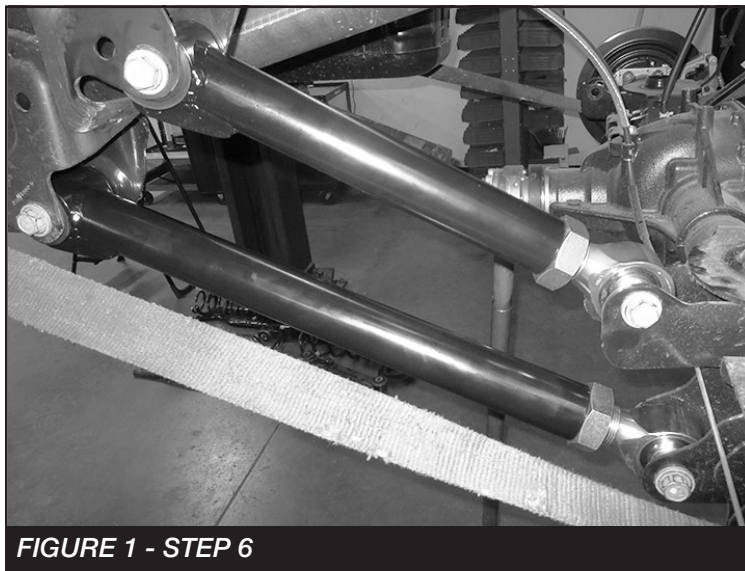

FIGURE 1 - STEP 6
6. Install FT50772 (Upper Link) into the factory mounts using two FT50594 (Misalignments) and the factory hardware. Torque to 160 ft-lbs. **NOTE: The rod end will be installed at the axle side and the grease fitting should be facing upwards on the frame side. SEE FIGURE 1**